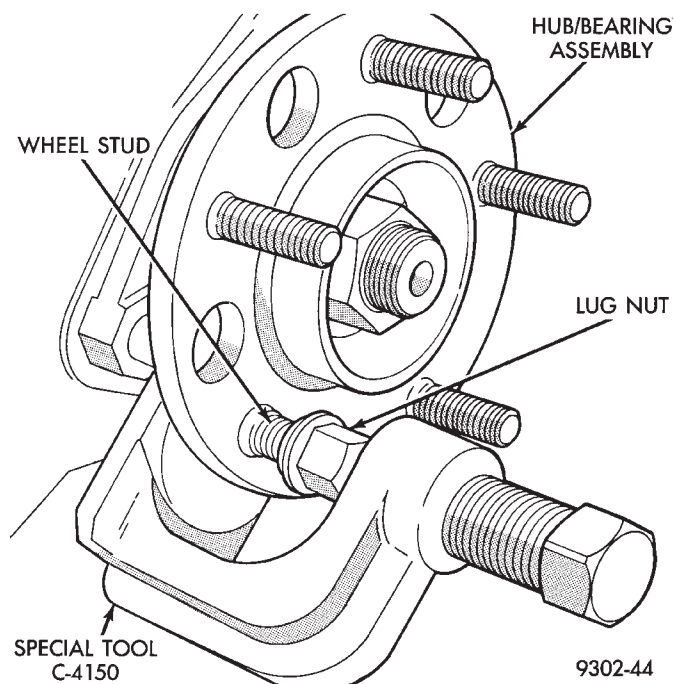

**Fig. 63 Removing Wheel Stud From Hub And Bearing**
(4) Install a lug nut on the wheel stud to be removed from the hub and bearing assembly (Fig. 63) so the threads on stud are even with end of lug nut. Install Remover, Special Tool C-4150 on hub and bearing assembly flange and wheel stud (Fig. 63).